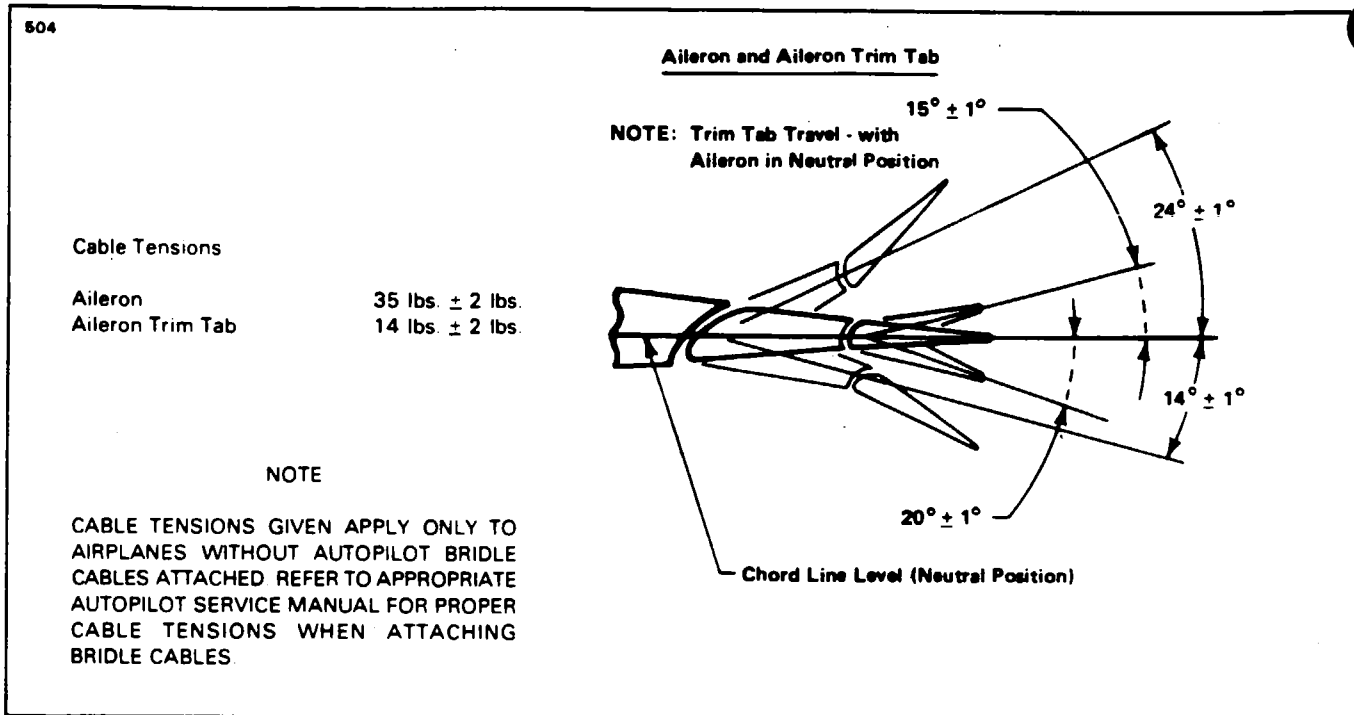

Figure 27-11. Aileron Control Travels and Cable Tension
4. Set cable tension per Figure 27-11 and check control cable rigging and adjustment. Also check cable clearance.
- 3. With the bellcrank in neutral position, adjust cable tension as given in Figure 27-11 to maintain neutral-center alignment of control wheels. Remove the floor panel to the left of the control pedestal. Alternately adjust the primary and balance cable turnbuckles at the bellcranks with the turnbuckles within the fuselage at station 100.00. Cable tension should be taken at the non-ridged primary control cable and tension corrected to ambient temperature per Chart 2702. Safety turnbuckles.
- 5. Place a bubble protractor on the inboard section of the aileron and establish neutral or zero on the protractor. Remove the tools holding the aileron bellcranks in neutral, replace nuts and safety. Adjust the bellcrank stop bolts to the specific aileron travel from neutral as given in Figure 27-11. Stops of both bellcranks should contact their stop blocks at the same time and before the control wheel contacts its stop.
7. Set the aileron cable tension per Figure 27-11 and check rigging and adjustment.
13. Set cable tension with the turnbuckles in the wing at station 90.00 per Figure 27-11 and check rigging and adjustment.
8. If the complete cable system is installed, set cable tension with the turnbuckles at wing station 90.00 per Figure 27-11 and check rigging and adjustment.
- C. Cable tension set per specifications given in Figure 27-11.
5. Turn the trim in each direction to screw stops to check tab angle as given in Figure 27-11 and also check the minimum number of cable wraps left on the drum. (Minimum allowable is one and one-quarter turns.)